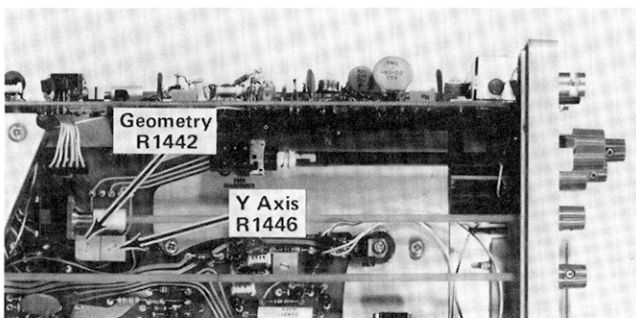

Fig. 5-5. Location of Geometry and Y Axis adjustments.
- f. ADJUST—Y Axis Alignment adjustment, R1446, (see Fig. 5-5) to align the center time marker with the center vertical graticule line.
- b. ADJUST—Geometry adjustment, R1442, (see Fig. 5-5) for minimum curvature of the markers across the graticule area.